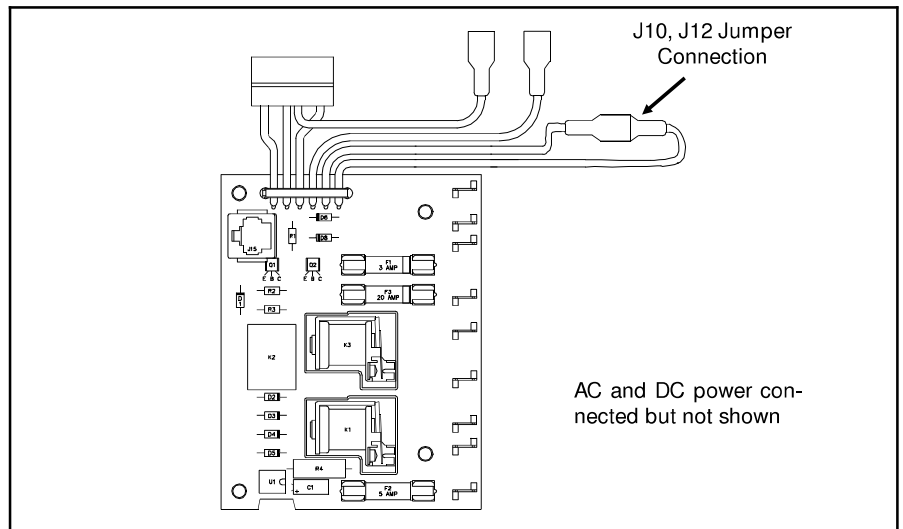

Figure 11.25 Single Door Power Supply
10. For the single door models, check that the two blue wires, terminals J10 & J12, are connected together as shown by Figure 11.25.
A. If you do not have 11-12 volts as shown, connect J10 and J12 together as shown in Figure 11.25 (two-door models only).